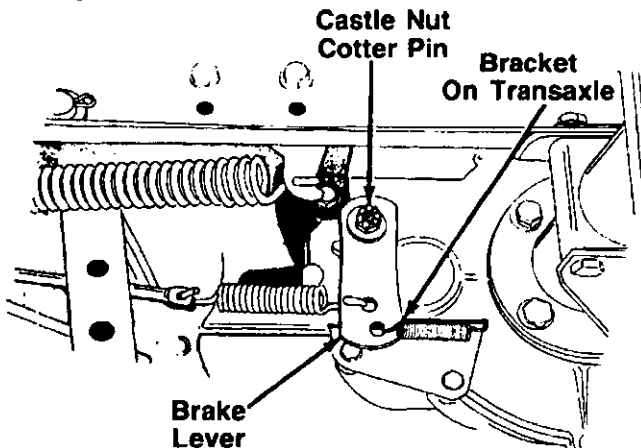

FIGURE 18.
- After rod is adjusted to fit over pin, then turn rod **four (4) full turns counterclockwise**. Move speed control lever to second position. Attach rod to pin on variable speed torque bracket, using the flat washer and cotter pin.
- Adjust the brake by removing the cotter pin. Tighten the castle nut by hand until the brake lever locks against the bracket on the transaxle. See figure 18.